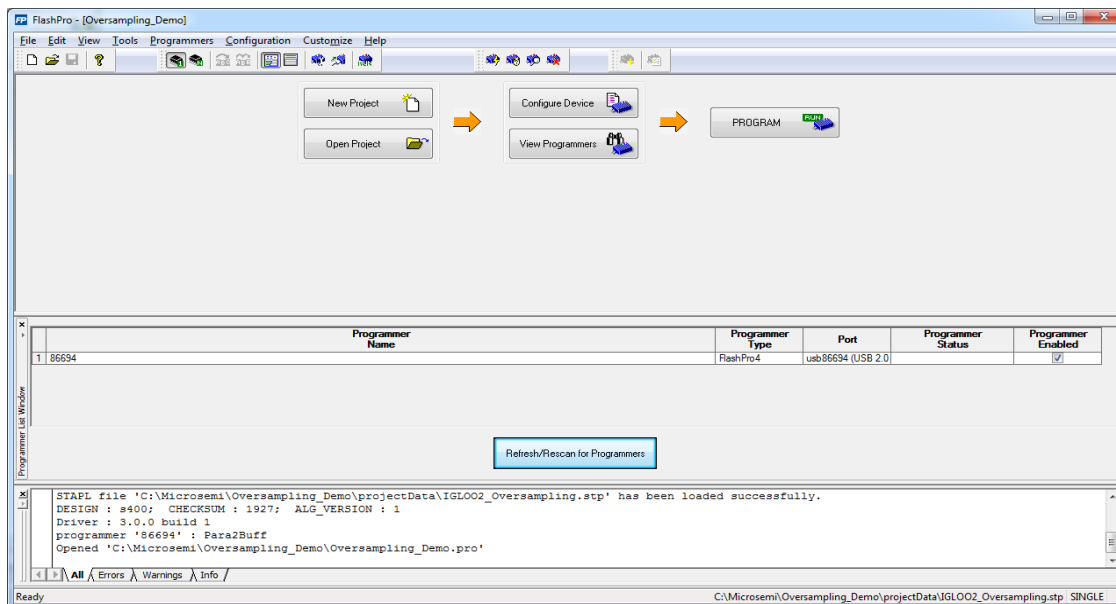

Figure 8 • Flash pro GUI Window
9. The FlashPro GUI is displayed as shown in **Figure 8**. The Programmer List Window updates the programmer information.